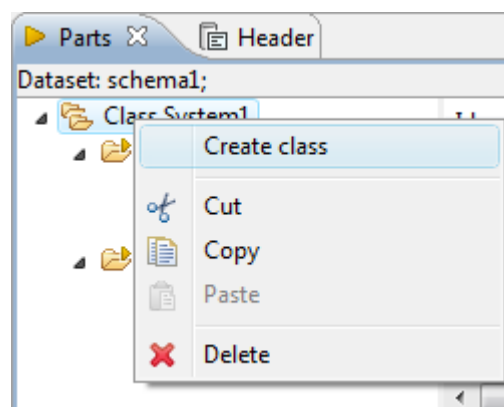

Figure 1. Context sensitive menu, invoked from dataset branch
- Right click on the  classification system node in the tree. The context sensitive menu appears (see Figure 1).